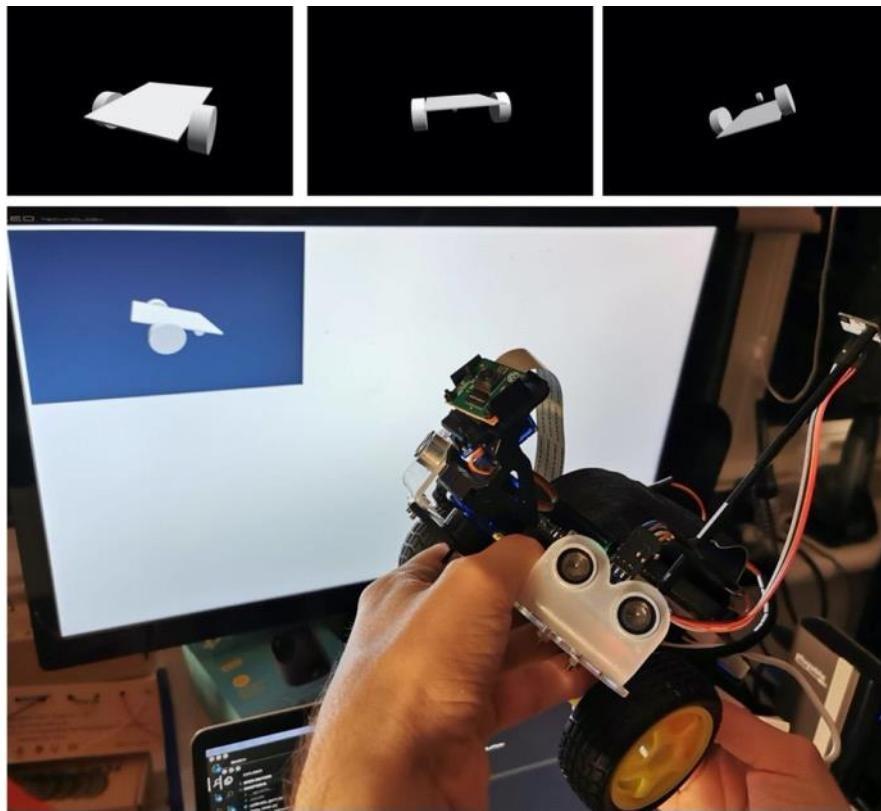

Figure 16.6 – The robot rotated
*Figure 16.6 shows the virtual robot rotated to an angle by having moved the real robot. Move your robot around a bit—try to approximate what you see here.*